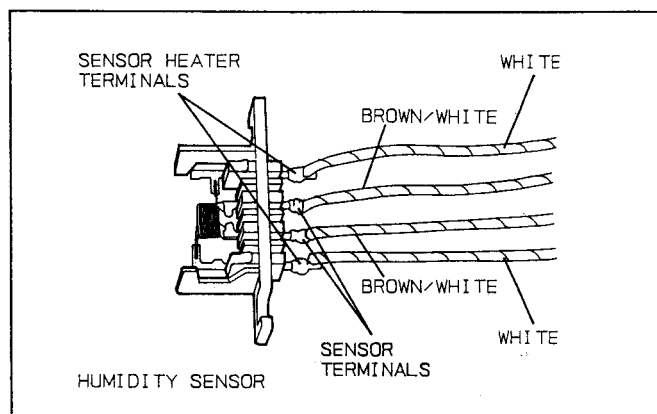

Fig. 37
6. Humidity sensor and digital programmer circuit (See Fig. 37)